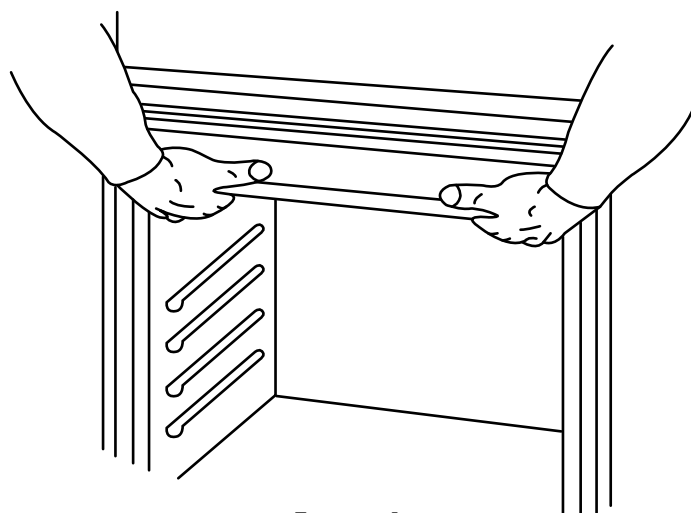

Figure 1
2. By hand, feed the flexible electrical supply conduit from the oven to the junction box (Figure 1).
3. Insert the #8–14 x 1" screws (provided) through the pilot holes to securely fasten the oven to the cabinet (Figure 1). Do not overtighten screws.